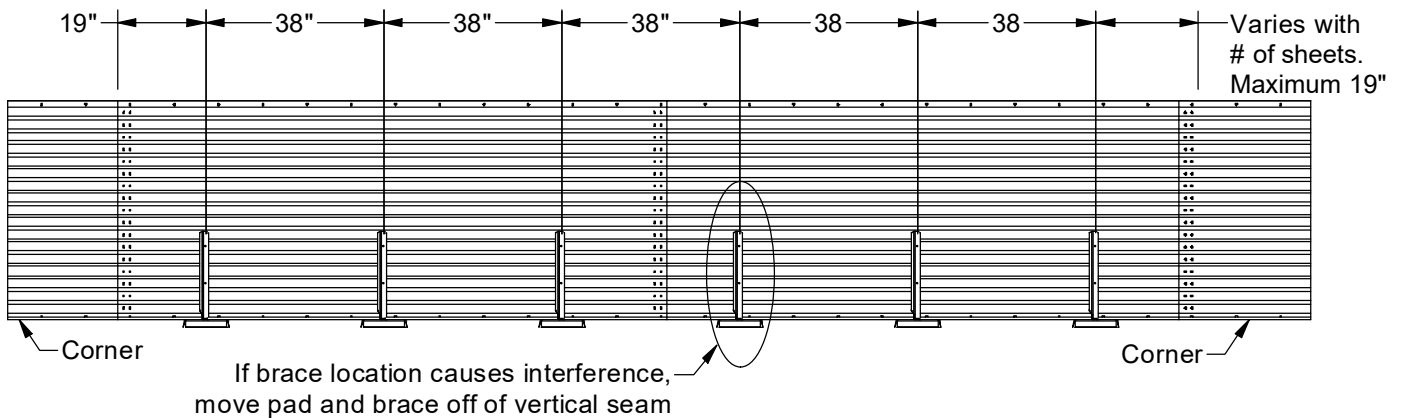

Fig 12 - ZGD Support Post Spacing for 47" (optional upgraded systems), and 67" (all systems)
4. Repeat steps 1-3 with the other sides. See Figure 12 for more details.